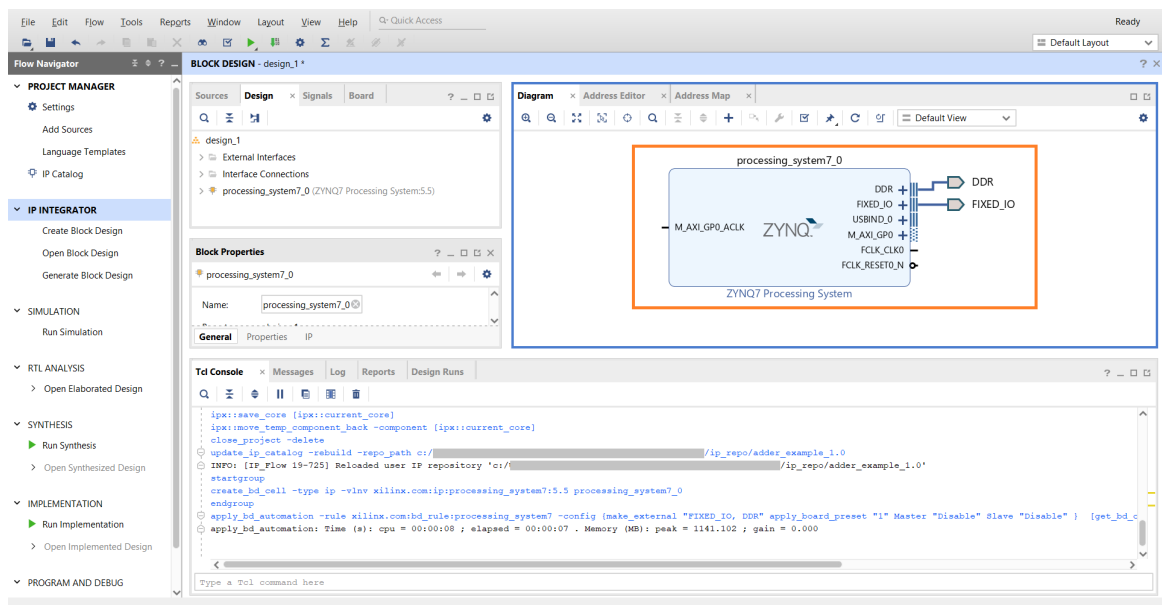

Figure 26: Fully configured Zynq processing system, after running block automation
- STEP 2: Click on *Run Block Automation* to add automatically useful configuration. A pop-up window will appear, let the default configuration and click *OK*. The result of this operation is shown by Figure 26